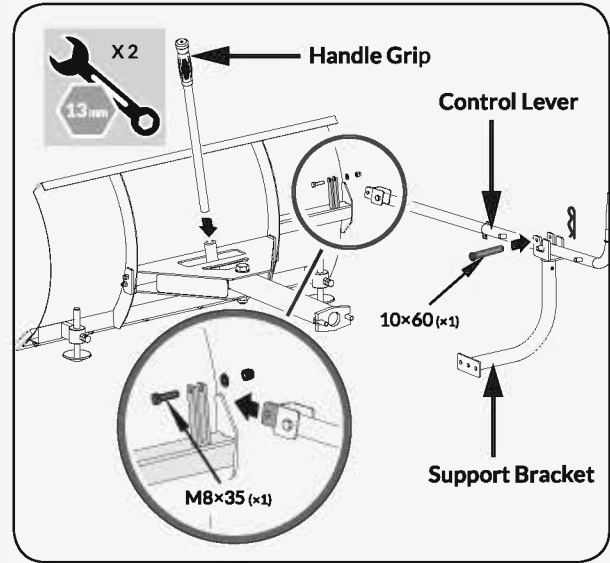

Figure 8d
- Secure the support bracket into the control lever with pin 10x60 and bridge clip. (See **Figure 8d**)